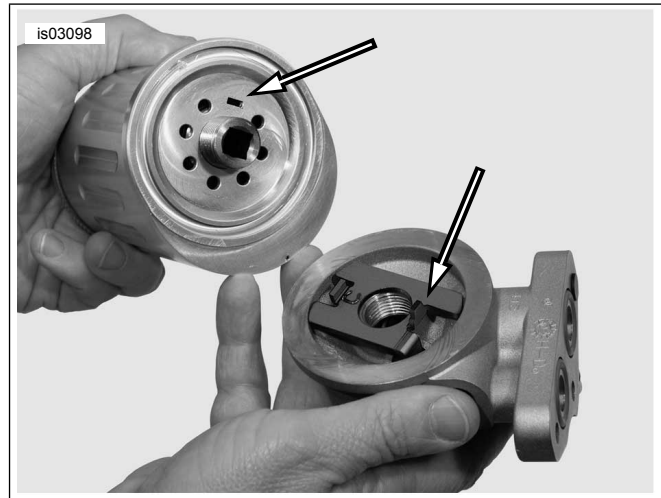
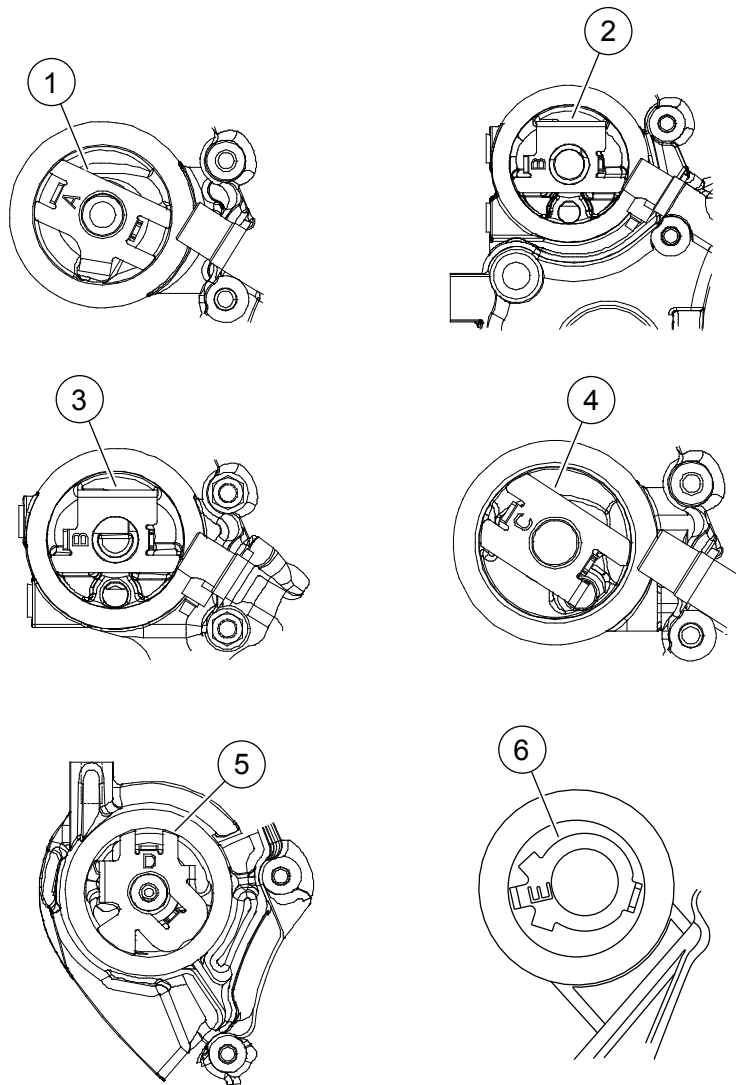
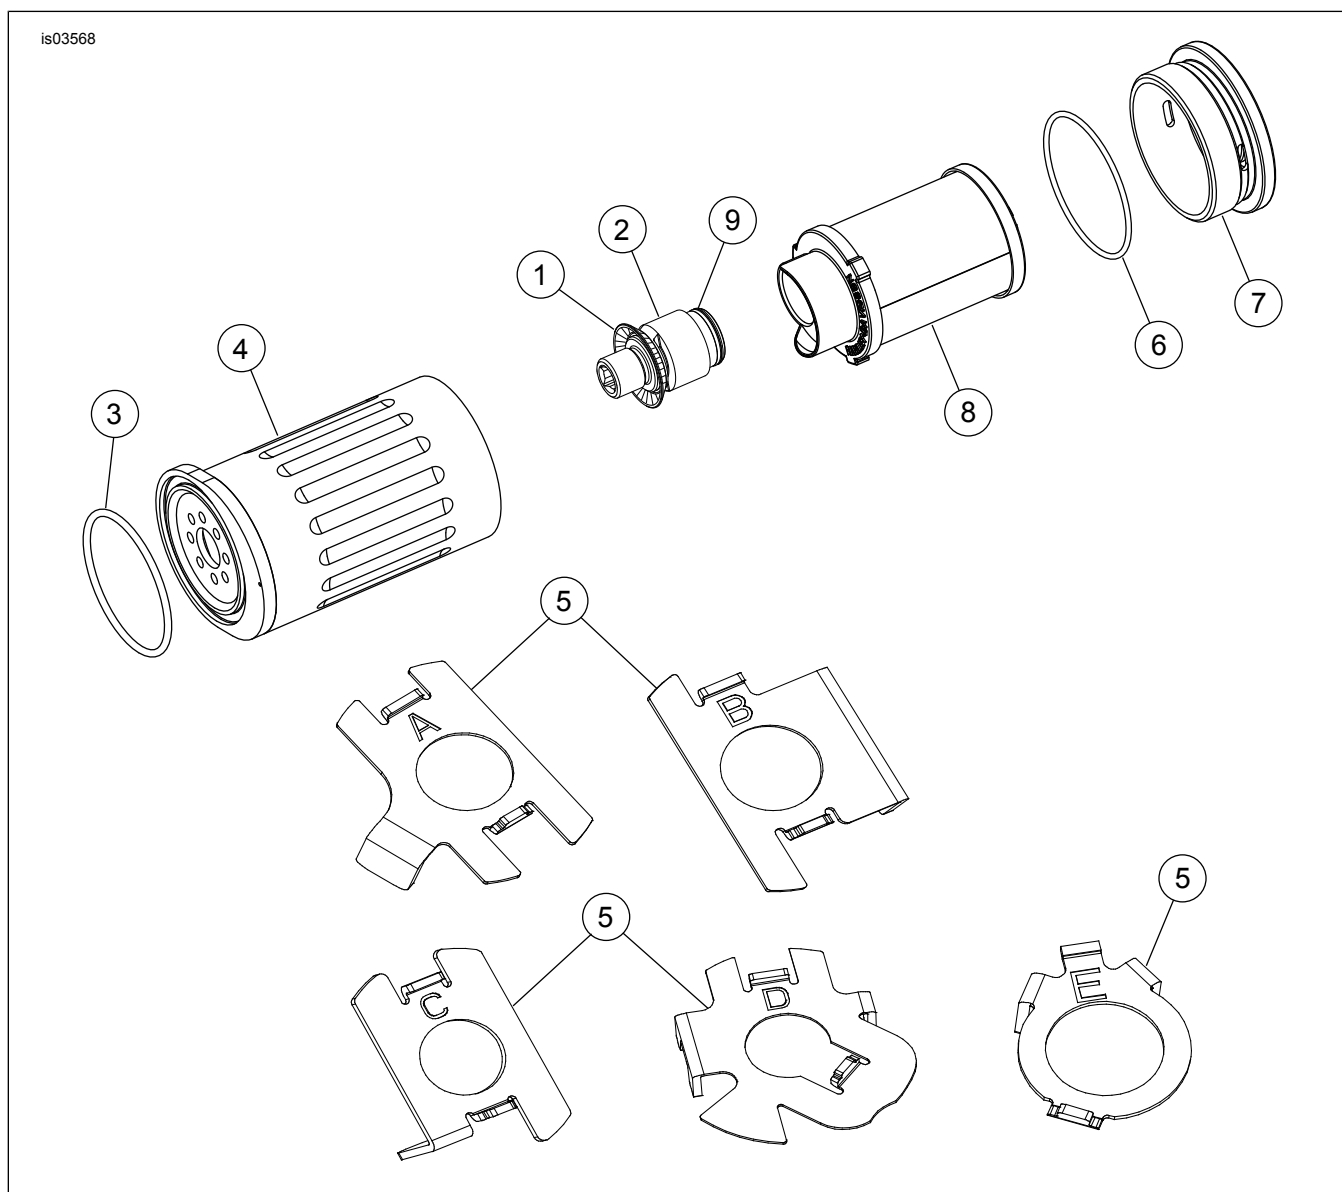

Figure 3. Oil Filter Housing/Anti-Rotation Device Alignment
Figure 4. Anti-Rotation Device Orientation
Figure 5. Service Parts: Definitive5 Filtration System Kits
See Figure 5 and Table 4.
1. See Figure 5. Lubricate anti-backflow valve (1) from kit with clean oil, then place in groove on threaded adapter assembly (2).
2. Check if anti-backflow valve (1) is seated properly in groove of threaded adapter assembly (2).
- b. After installed, check that the outer lip of the anti-backflow valve contacts the inner base of the oil filter housing (4).
3. Lubricate O-ring (3) with clean engine oil, then place O-ring in groove of oil filter housing (4).
4. Select appropriate anti-rotation device (6) for your model motorcycle.
5. Place anti-rotation device (6) into oil filter base. See Figure 4 and Table 3 for proper orientation.
6. Apply Loctite (12) to bond threaded adapter assembly (2) to oil filter mounting housing (4).
7. Place threaded adapter (2) inside oil filter housing (4).
8. See Figure 3. Align slotted hole on bottom of oil filter housing (Figure 5, Item 4) with tab on anti-rotation device (Figure 5, Item 6).
See Figure 5 for Steps 9 through 13.
9. See Figure 5. Use 3/8 in. socket wrench extension (at least 7 in. long) to engage the square hole at bottom of threaded adapter assembly (2). Thread oil filter housing (4) into oil filter base. Tighten to 30 ft-lbs (40.7 Nm).
1. See Figure 5. Using the Definitive5™ cover wrench (11), loosen cover (8) and rotate until drain slots are fully visible and aligned vertically to allow draining fluid into a pan.
2. Unscrew cover and dispose of the filter element (9) according to local regulations.
3. Inspect interior of oil filter housing (4) for any solid matter and wipe clean with a lint free cloth.
1. See Figure 5. Install open end of filter element (9) onto threaded adapter assembly (2) and push gently over O-ring (10) to seat element.
2. Thread cover (8) into oil filter housing (4) until hand tight. Using cover wrench (11), continue to tighten cover until it is flush with the oil filter housing.
The engine oil filter seals, O-rings, and pin can be replaced by ordering Seal Replacement Kit 63833-07 (Figure 5, Item 13). Consult a Harley-Davidson dealer for assistance.